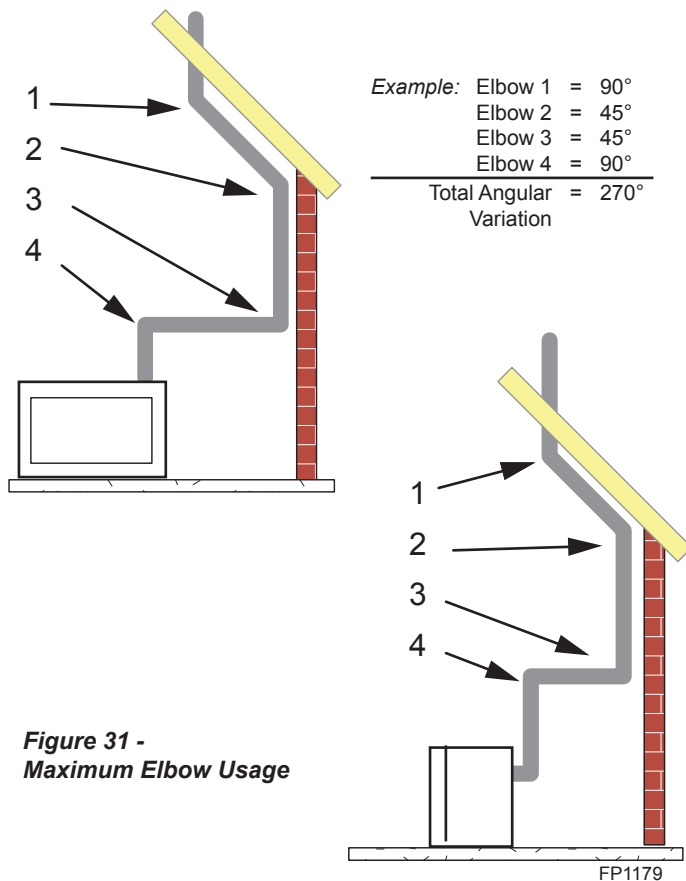

Figure 31 - Maximum Elbow Usage
- The maximum angular variation allowed in the system is 270°. *Figure 31*
- Two sets of 45°elbows offsets may be used within the vertical sections. From 0 to a maximum of 8' (2.5 m) of vent pipe can be used between elbows. *Figure 31*